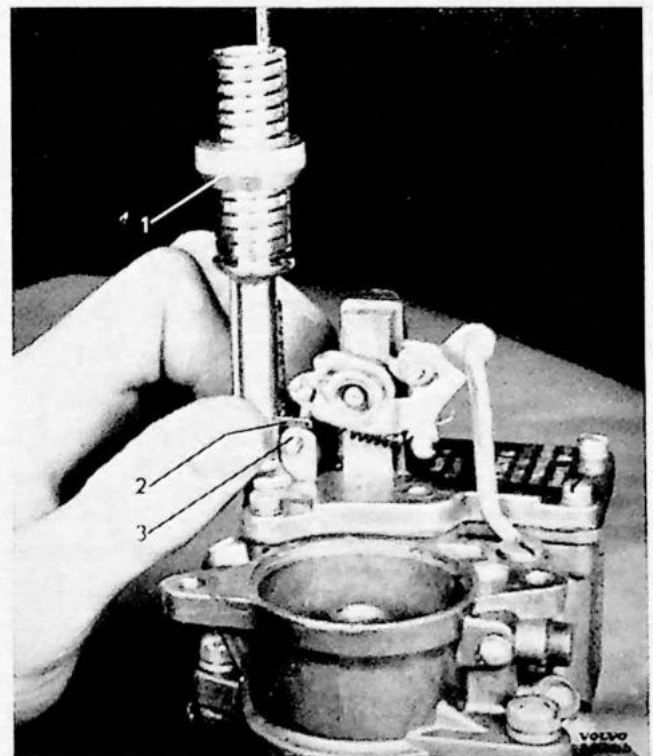

Fig. 91.
Turn throttle to wide open, and move finger (2) to position shown in Fig. 91.